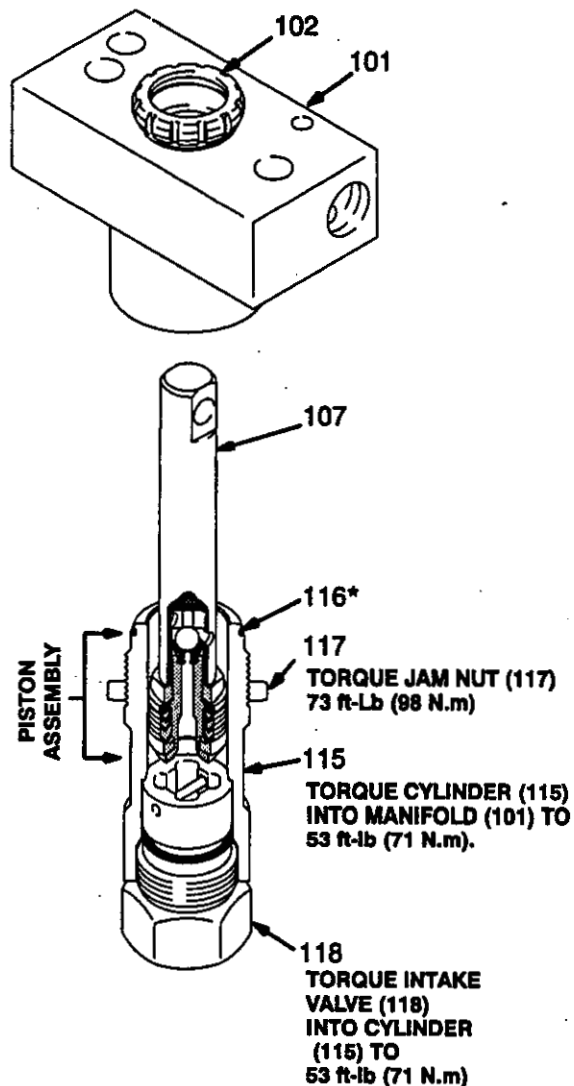

Fig 24
10. Install the packing nut (102) and plug (124), but leave loose for now. See Fig 24.
11. Place a new o-ring (116*) firmly in the cylinder groove. See Fig 24.
12. Coat the piston rod and packings with oil. Carefully slide the assembly INTO THE TOP OF THE CYLINDER (115). See Fig 24.
13. Place the intake valve (118) in a vise and assemble its parts. See page 21. Screw the cylinder (115) onto the valve (118). Turn the jam nut (117) all the way down. See Fig 24.
14. Put the manifold in a vise. Guide the rod/cylinder assembly up through the manifold (101). Screw the cylinder (115) into the manifold and tighten to 53 ft-lb (71 N.m). See Fig 24.
15. Tighten intake valve (118) to 53 ft-lb (71 N.m). See Fig 24.
16. Tighten the cylinder jam nut (117) to 73 ft-lb (98 N.m). See Fig 24.